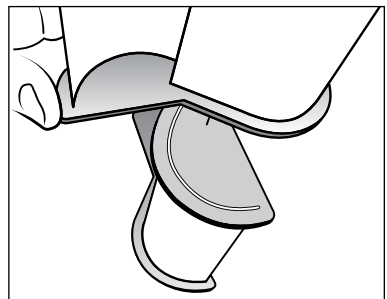

Figure 11
- 4) Line up the blade so the top one is aligned with the etchings on top of the bottom blade (Figure 11). Place a little glue between the rotor blades and press them together, making sure to keep them properly aligned. Let dry.